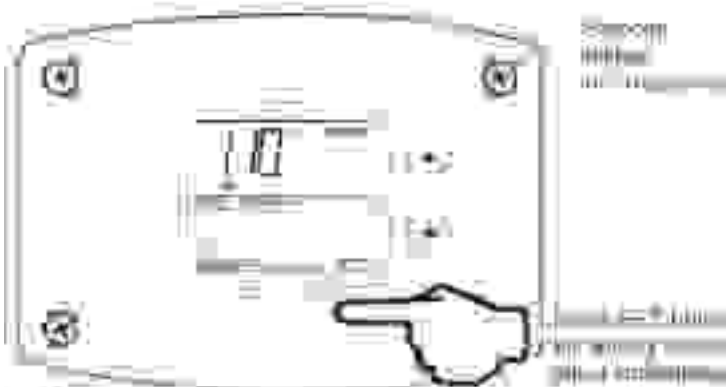

Fig. 26
3. Press 'SET' button for new setting to take effect immediately. 'Setpoint' will stop flashing. If the 'SET' button is not pressed, the new temperature setting will take effect in approximately 10 seconds (Fig. 26).